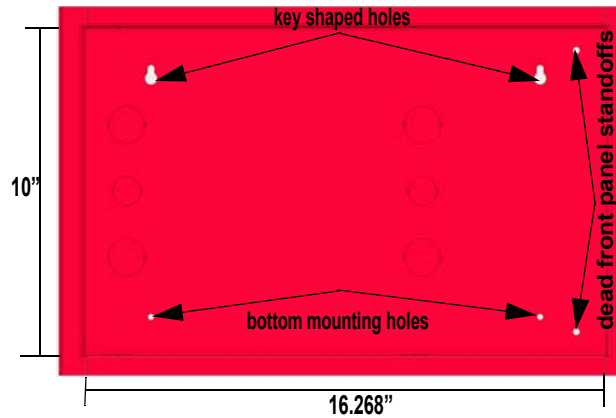

Figure 2 Cabinet Mounting Holes
3. Insert the two screws into the two bottom mounting holes and tighten them snug to the cabinet. Refer to Figure 2.